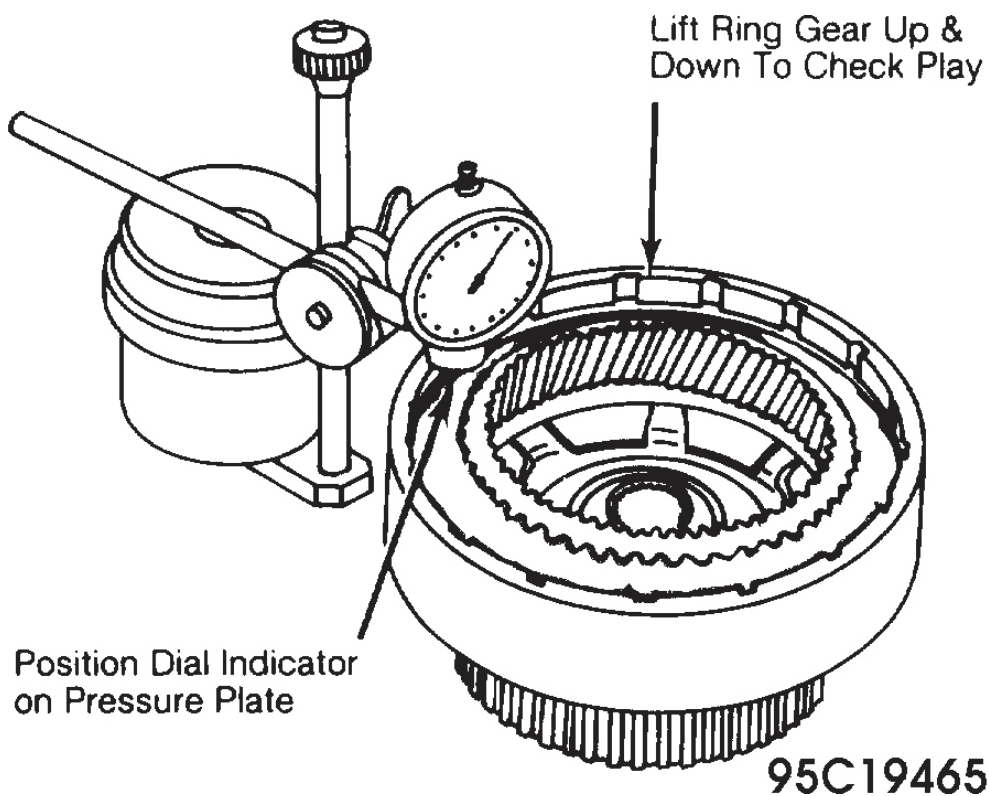

Fig. 20: Measuring Forward Clutch End Play
5. Position dial indicator on assembly with indicator pointer resting on pressure plate. Zero indicator. Pull up on planetary ring gear and note reading on dial. End play of assembly should be .020-.035" (.50-.90 mm). See **Fig. 20**.